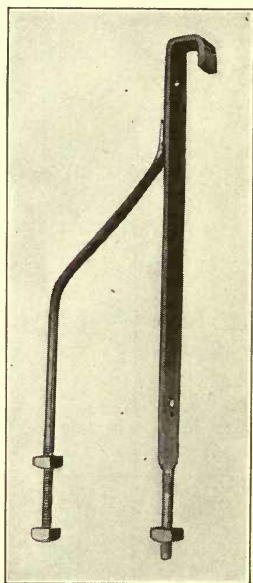

FIG. 33. STRAP BOLT AND SIDE BRACE.
5. Thread the end of the brace. You will need two nuts on the brace, as shown in Fig. 33.